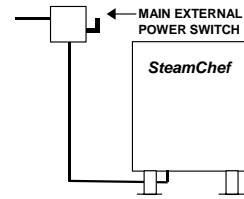

Figure 3-1
- Refer to Figure 3-1 and turn on electric power to the SteamChef at the Main External Power Switch.